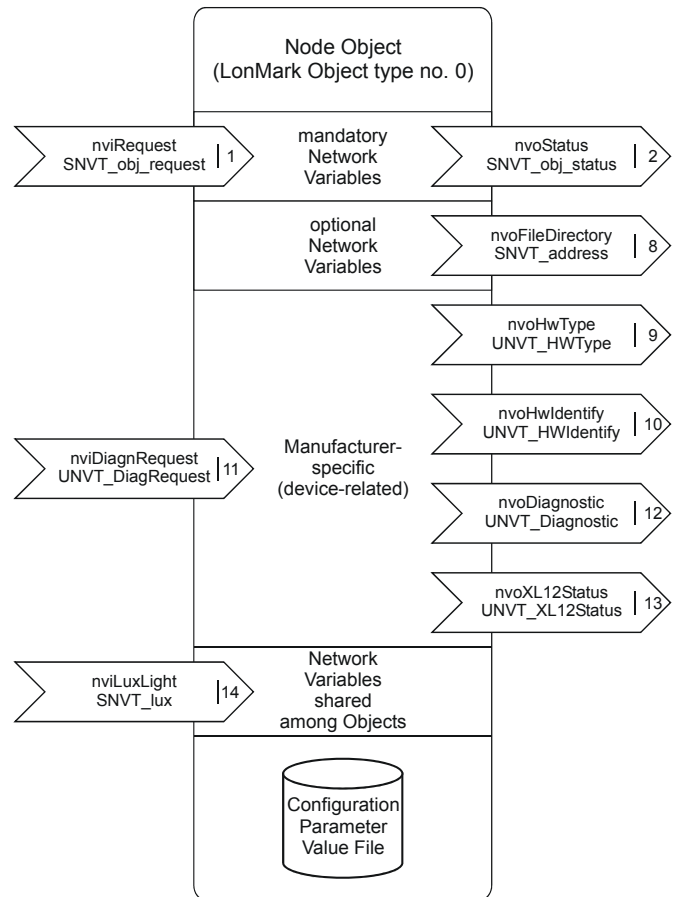

Fig. 11. Node Object
- one node object (see Fig. 11)